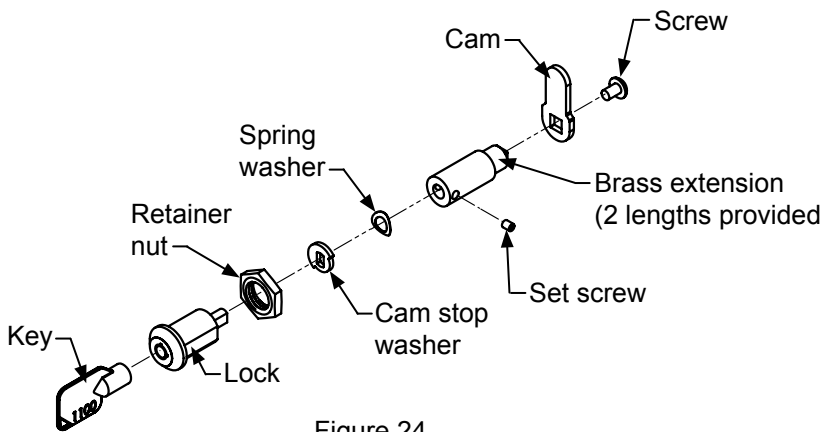

Figure 24
Two (2) lock extensions are provided with the lock. Use the longer extension for $\frac{3}{4}$ " thick overlay panels and the shorter one for $\frac{5}{8}$ " thick overlay panels. Assemble the lock extension, cam stop washer, spring washer, and set screw to the lock as shown in Figure 22 and Figure 24.